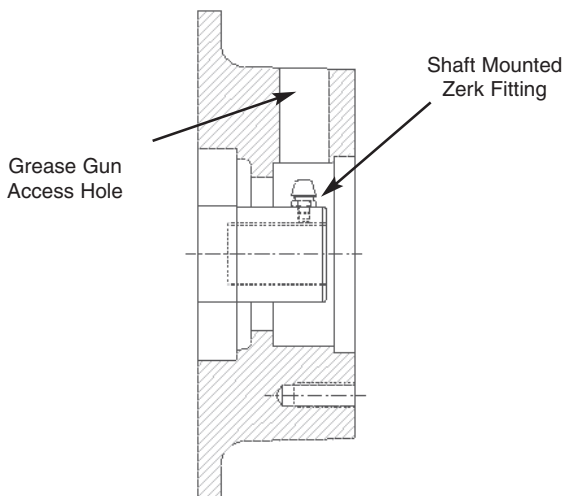

Figure 3--Drive End Bearing Bracket
2. Turn the rotor assembly so that the Zerk fitting is in line with the access hole in the top of the drive end bearing bracket as illustrated in Figure 3.
3. Using a hand held grease gun with a solid coupling, apply a small amount of grease into the fitting. **DO NOT OVER GREASE.** Limit the amount of grease to one (1) trigger pull of the grease gun.